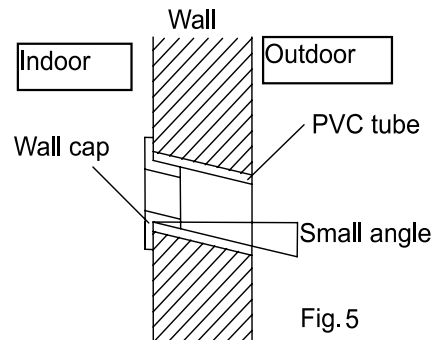

Fig. 5
- Drill holes as Fig.5 shows. The hole, 80mm in diameter, should slightly slide down outwards..
- Cut PVC tubes at a slight angle in the length shorter than wall thickness and inset it into the hole.( Fig.5 )